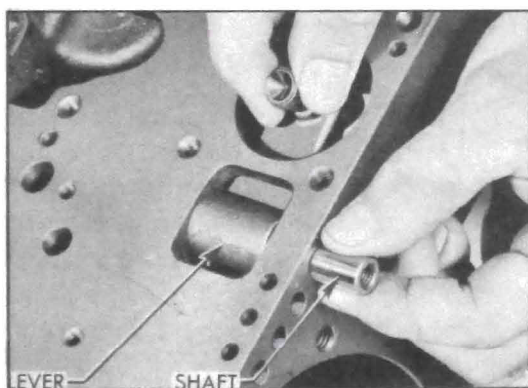

Figure 5-89—Installing Low Band Operating Lever and Shaft
1. Install the low band operating lever and shaft. Strut shoulder of lever must be toward inside of case and tapped end of shaft must be outward. See figure 5-89.
2. With the assembly standing on end of rear bearing retainer, install a wooden block (1"x2"x3½") as shown in figure 5-89. Set both low band struts in position on block, with